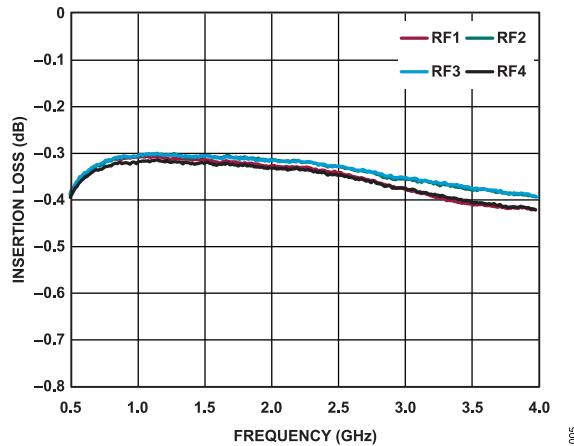

Figure 5. Insertion Loss for RFC to RFx Selected vs. Frequency
5. The ADRF5347-EVALZ is expected to have an insertion loss of 0.42 dB at 3.8 GHz. See the expected results in Figure 5.